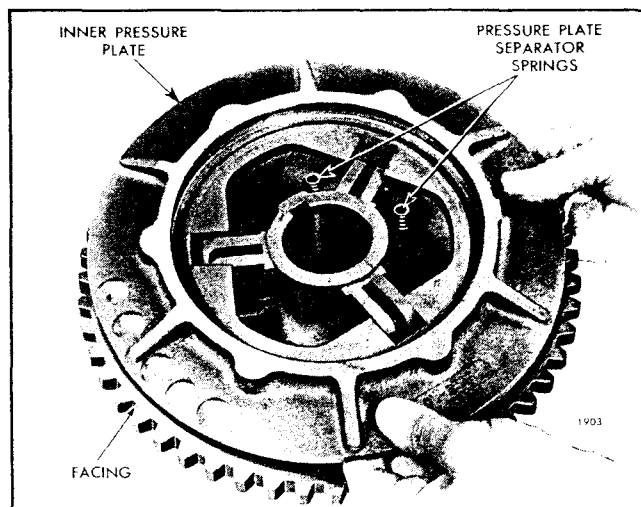

Fig. 13 - Installing Inner Pressure Plate With Springs and Clutch Facing in Plate
1. Place the outer pressure plate (Fig. 13) on a bench with the hub end of the pressure plate up.